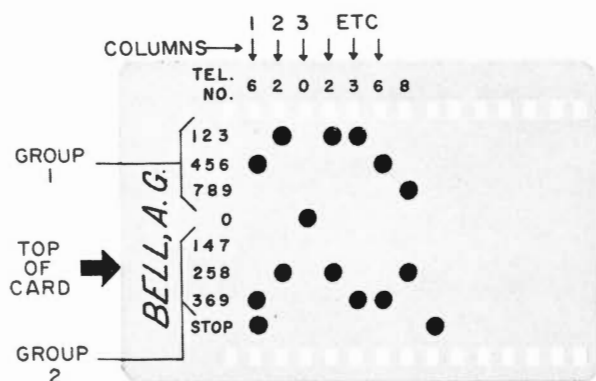

Fig. 5 - 7-Digit Card Coded for Telephone Number 620-2368 (MAIn 0-2368).
4.01 It is important that the cards be properly punched and checked for accuracy in order to ensure satisfactory performance. Coding instructions for cards (Fig. 5 and 6) are as follows:
1. Write the name and the desired telephone number in the spaces provided as shown in Fig. 5 and 6. Convert the two exchange letters to numbers by referring to your telephone dial. (For example, use 2 for A or B or C.)
3. In column 1 locate the first digit of the telephone number in group 1 and punch out the perforation with a pencil or ballpoint pen. (In Fig. 5 the number is 6.) In the same column locate the same number in group 2 and punch out the perforation. If not already removed, punch out the STOP in the same column.